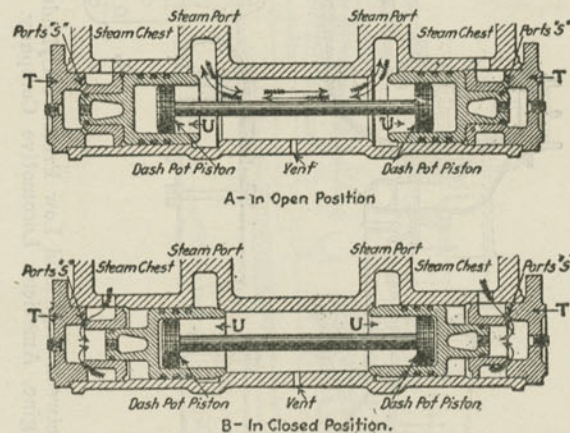

Fig. 353. By-Pass Valve, Articulated Compound Engine.
A. Fig. 353 shows these valves when assembled in their chamber, and their relation to the cylinder steam ports. (Each cylinder has a pair of these valves, in chambers cast outside them.) With open throttle the steam-chest pressure acting through the small ports, S, keeps the valves closed as shown in view B, Fig. 353.